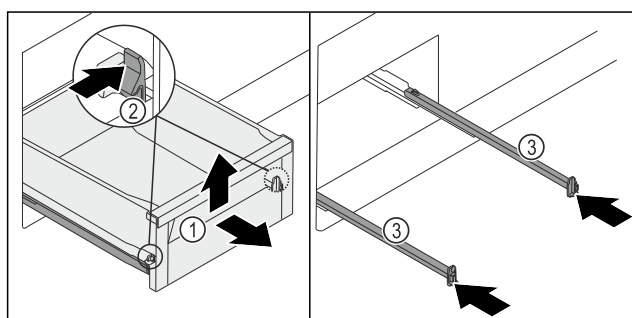

Fig. 125
- ▶ Pull the drawer Fig. 125 (1) out as far as it will go.
- ▶ Press the left and right clamp Fig. 125 (2) inwards at the same time.
- ▶ Drawer Fig. 125 (1) detaches from the rails.
- ▶ Lift up the drawer Fig. 125 (1) forwards.
- ▶ Remove the drawer Fig. 125 (1) forwards.
- ▶ Push in the rails Fig. 125 (3).